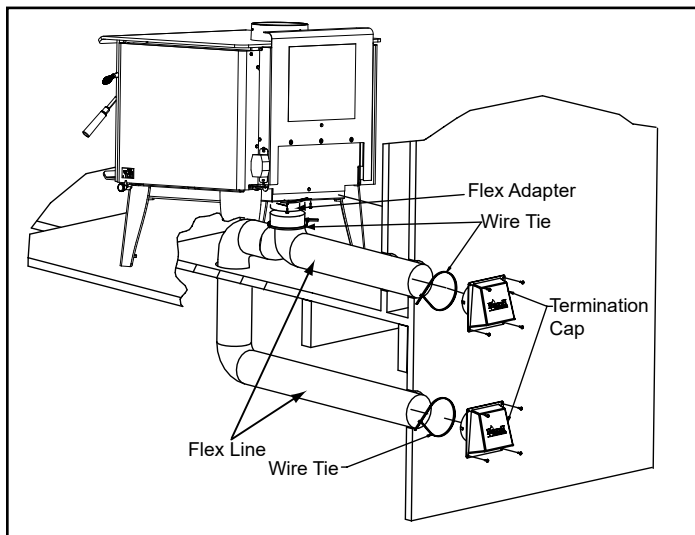

Figure 16.1 - Floor & Rear Installation
2. Using a 2 Phillips screw driver attach the flex adapter to the appliance using 4 screws (**Figure 16.1**).